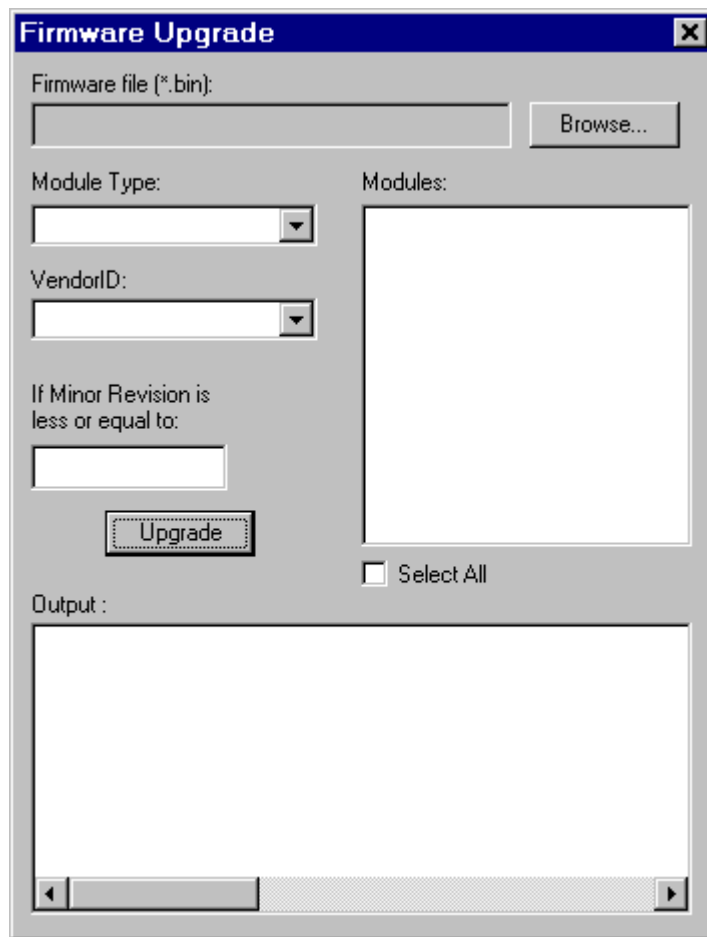

Fig. 8.3
- Click on **Firmware Upgrade...** menu to open the **Firmware Upgrade** dialog box - Fig. 8.3